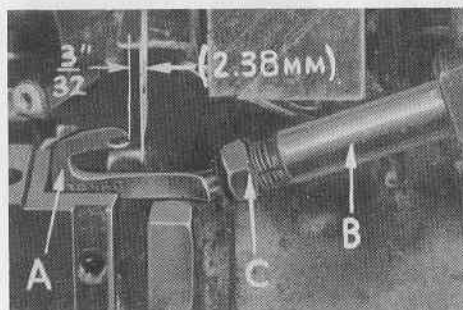
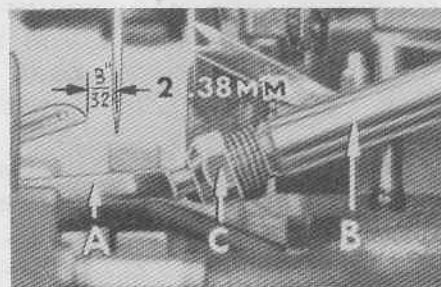

Fig. 6A
Fig. 6
into bar (B). With lower looper or spreader at left end of its stroke, set looper or spreader point  $\frac{3}{32}$  inch (2.38 mm) from centerline of needle (Fig. 6 or 6A) using looper gauge No. 21225- $\frac{3}{32}$ . Do not have lower looper or spreader deflecting needle. Tighten nut (C). Now assemble differential (front) feed dog.
At this point, insert lower looper (A, Fig. 6) on Styles 39500 QG, SD and TC or lower spreader (A, Fig. 6A) on Style 39500 RN